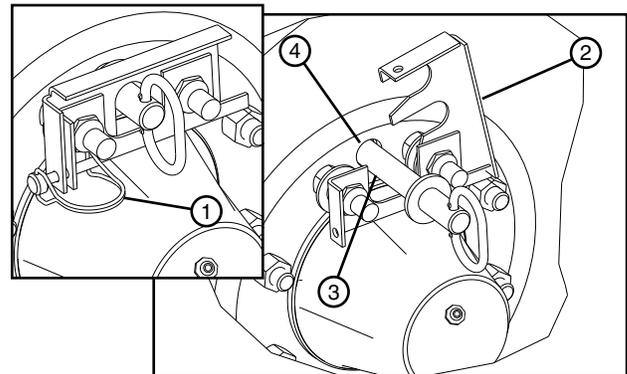

Figure 77-2 1. Lynch Pin 2. Retainer Clip 3. Torque Pin 4. Hub Torque Pin Receiver
4. Leave the torque pin installed in the hub torque pin receiver on the pivot point cart wheel so that this wheel will not rotate (fixed). See Figure 77-2.
5. Remove the torque pin from the hub torque pin receiver on the other cart wheel so that this wheel will rotate. See Figure 77-2.